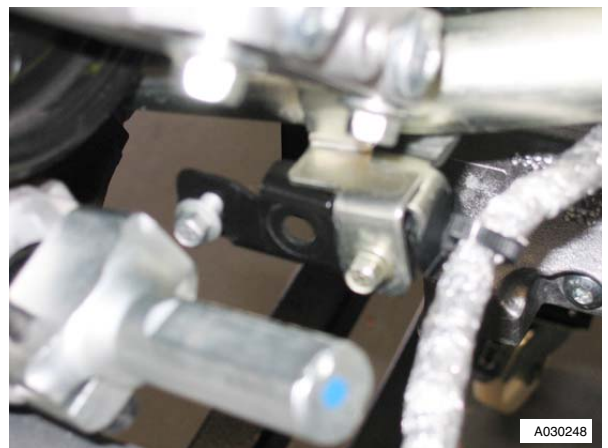

Figure 1
- Remove bolt, pipes to bracket (refer to Figure 1).